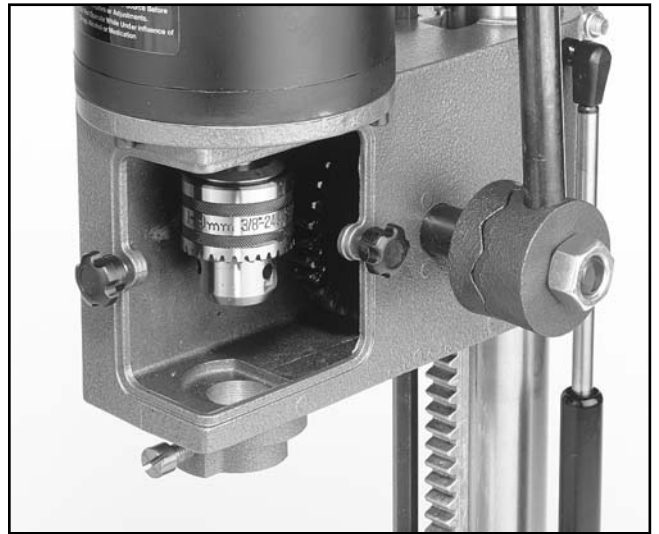

Figure 6.
1. Remove the chuck cover on the mortiser's head by loosening the knobs at the front and side of the cover plate. **Figure 6.**